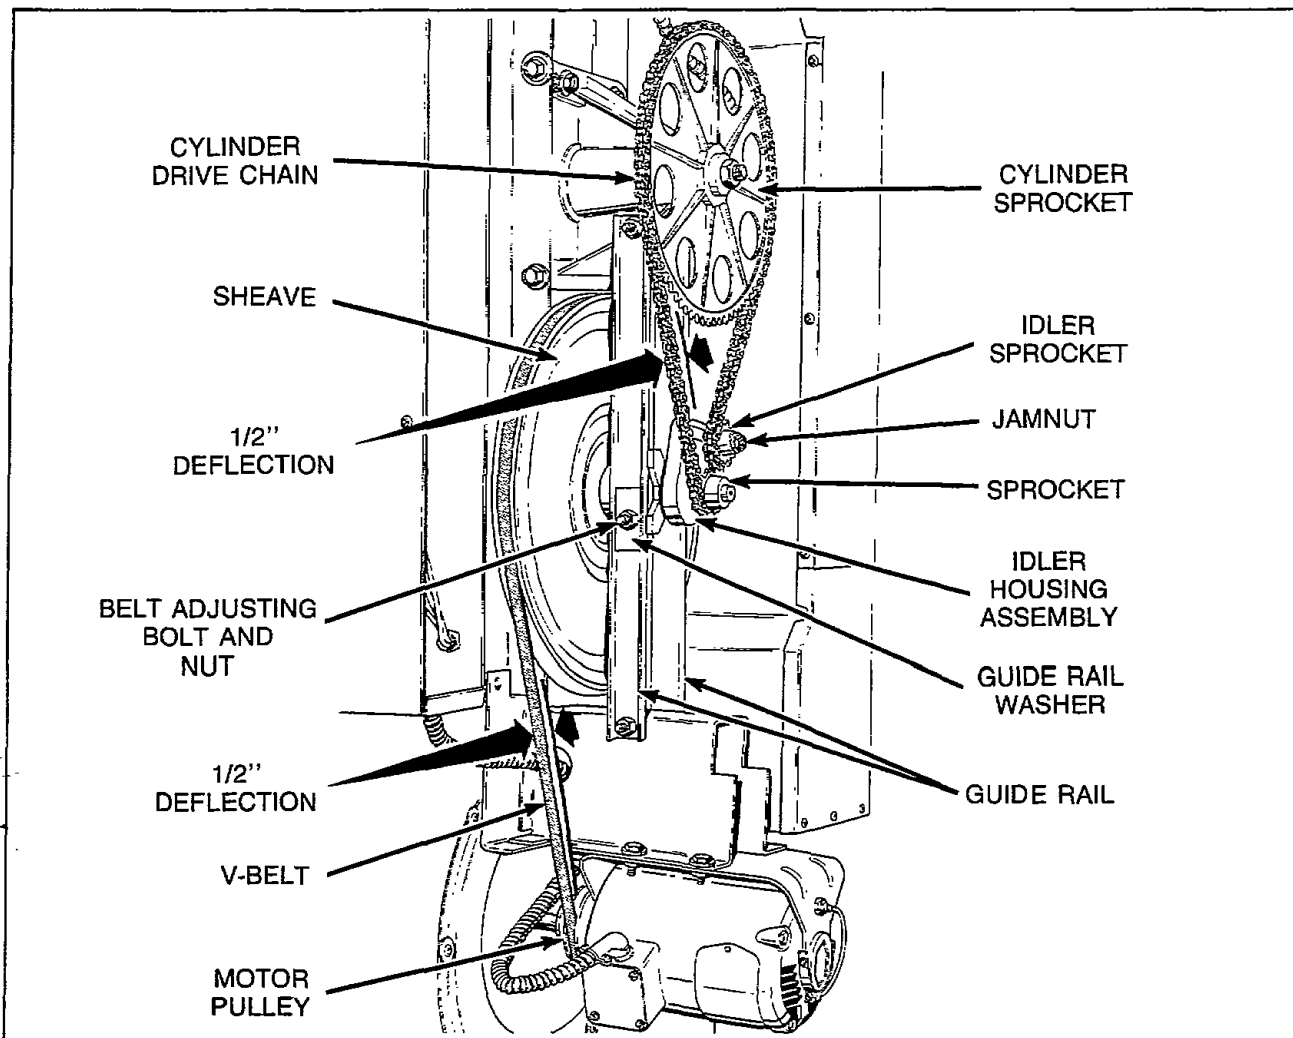

Figure 36
41. DRIVE CHAIN TENSION (Figure 36)